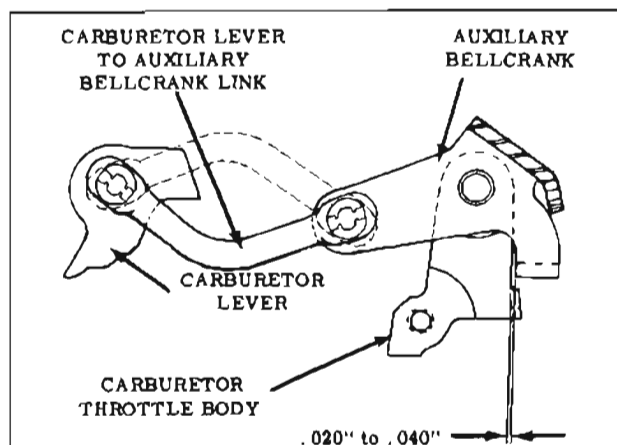

Fig. 9-194 Checking 4GC Carburetor Link
- a. Measure clearance as shown in Fig. 9-194 with feeler gauge. To obtain proper clearance of .020"-.040", remove carburetor lever to auxiliary bellcrank link and bend. Reinstall link and recheck clearance. Link can be installed up or down.